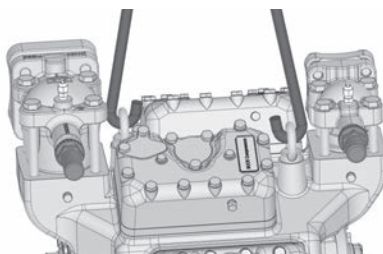

Fig. 7
- Transport and suspension unit on the eyebolt (Fig. 7).